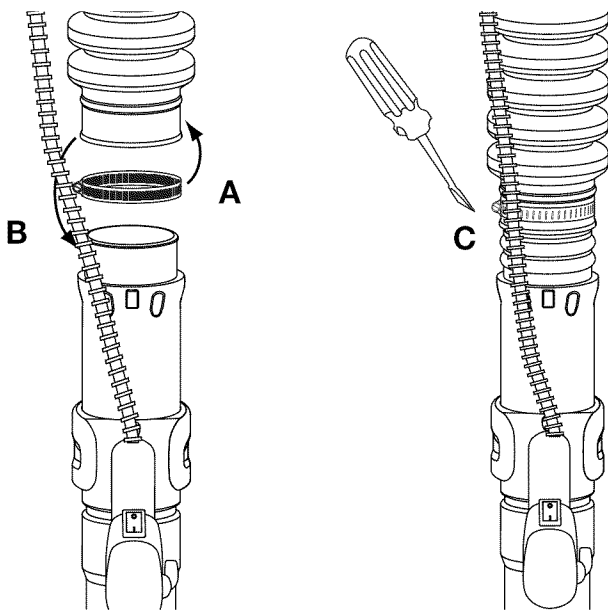

Fig. 2
1. Place a hose clamp over the other end of the Flex Tube (Fig. 2, A).
2. Slide the end of the hose with the clamp on it over the top end of the upper blower tube (Fig. 2, B).
3. Tighten the screw on the hose clamp to secure the Flex Tube to the upper blower tube (Fig. 2, C).